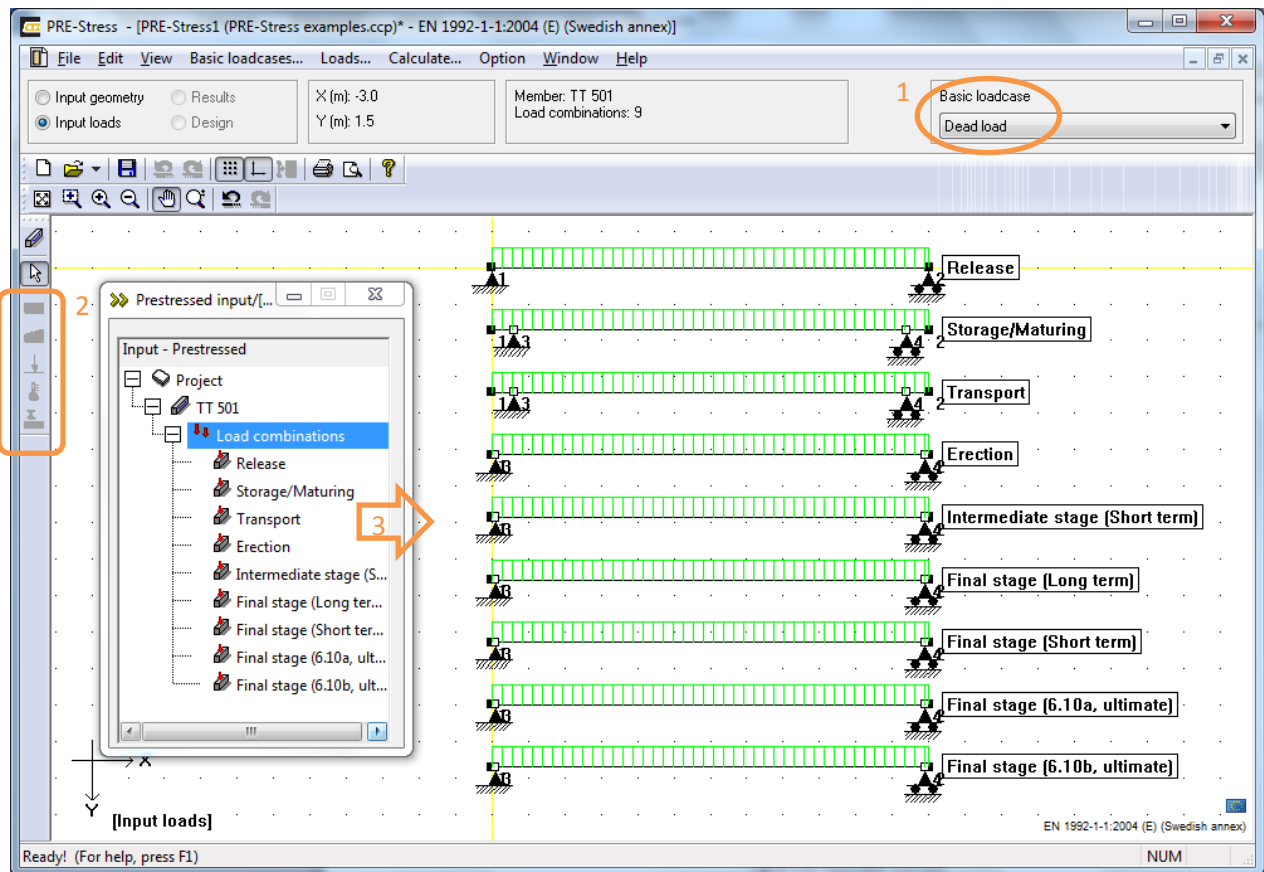

Figure 2-23 Inputloads, overview
Continue to *Input loads* (Figure 2-23). Here is an overview of each load case (1) and the input of loads are inactive in the overview (2). To be able to enter loads in the different load combinations a load combination in the project overview must be selected.